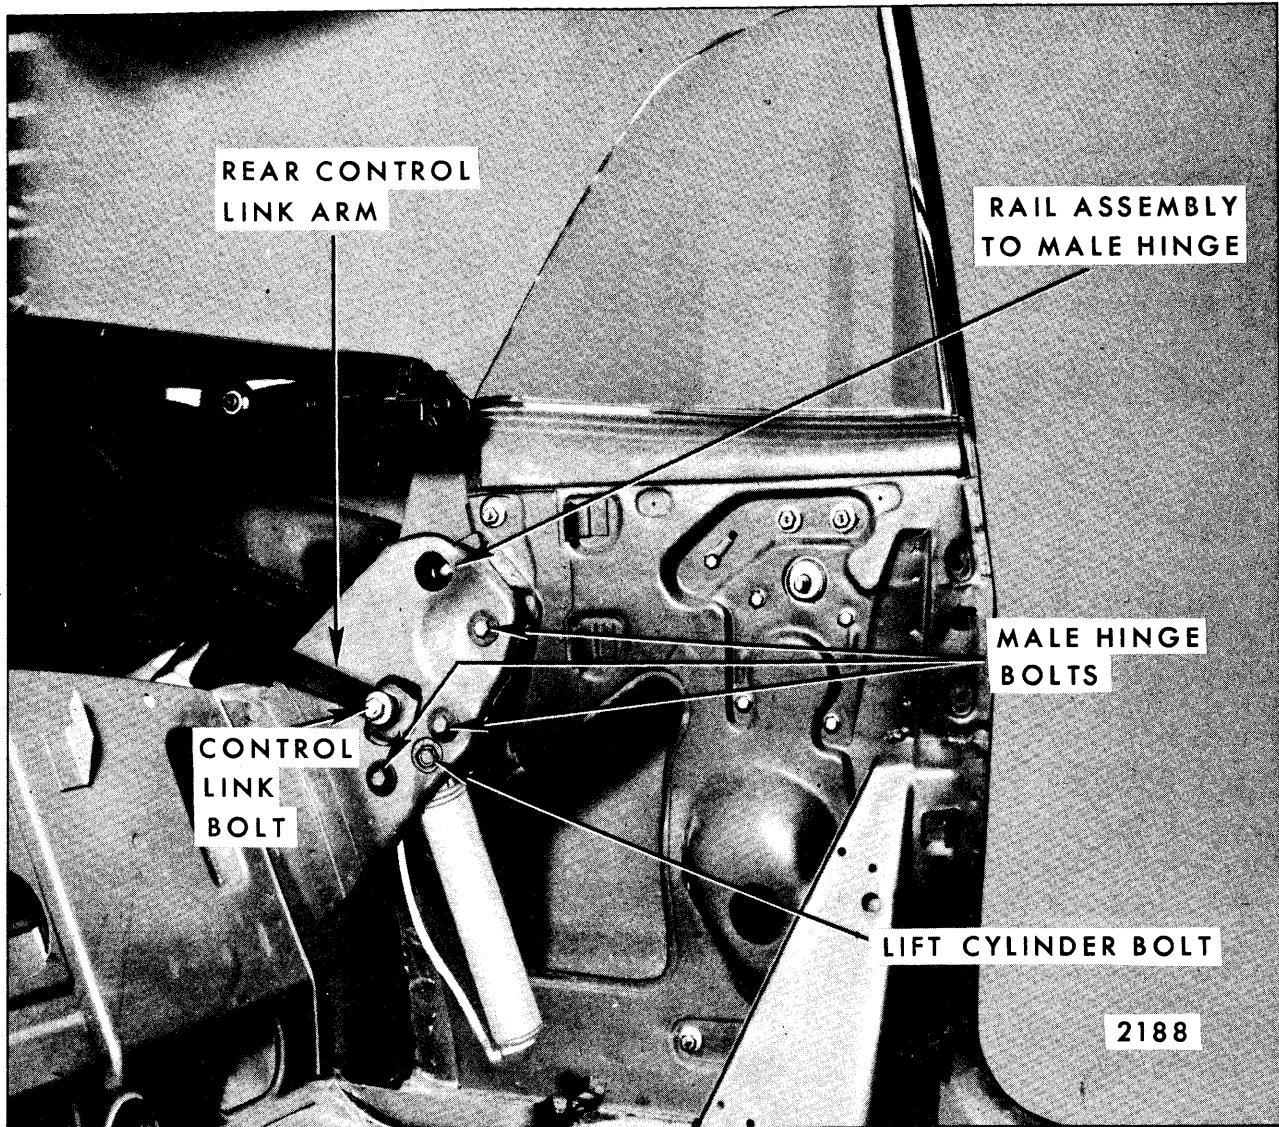

Fig. 6-81—"A" Body Convertible Top Linkage Attachments
- b. Loosen one bolt securing control link sufficiently to permit adjustment of link (See Fig. 6-81).
- b. Loosen male hinge assembly (Fig. 6-81).
- b. Loosen male hinge assembly (see Fig. 6-81).
- c. Rotate male hinge forward to lower stack height or rearward to raise stack height (Fig. 6-81).
- NOTE:** When rotating male hinge be certain position of rear rail to male hinge is maintained (Fig. 6-81).
2. Male hinge assembly misaligned.	Adjust male hinge assembly rearward. (Fig. 6-81).